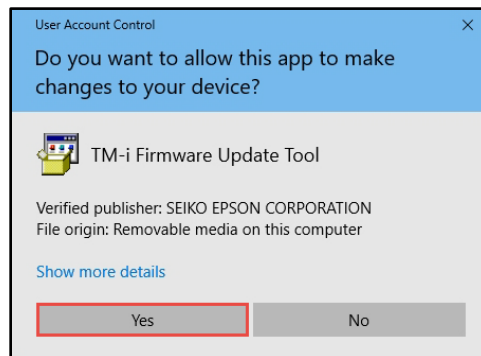

Fig. 1
4. Depending on your computer configuration, the following window may appear (Fig.1). Select “Yes” as highlighted in red below.